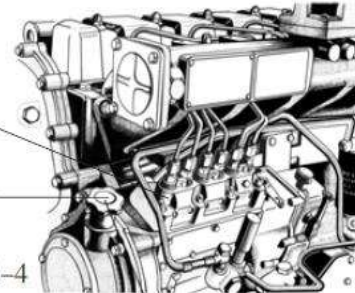

Fig2-4
1.2.4 For different configurations, the engines adopt various kinds of injection pumps, some of injection pumps adopt lubricating separated from the engine, such as ZHB pump. When adding the oil, loosen upper limit screw and add the lubricant from oil filler (see Fig2-3), do not tighten the limit screw until the oil in limit hole appears (see Fig2-4).